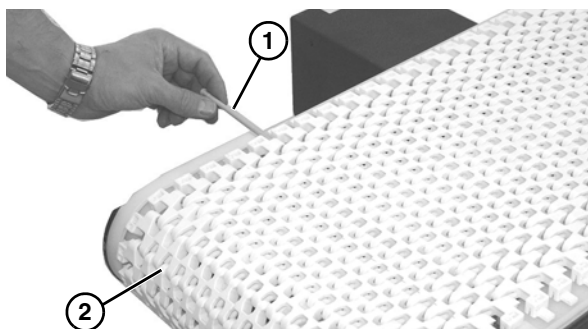

Figure 29
2. Use a punch and hammer to push the belt rod (Figure 29, item 1) out by striking the rod end opposite the retaining head.
3. Slide the old belt (Figure 29, item 2) off the conveyor frame.